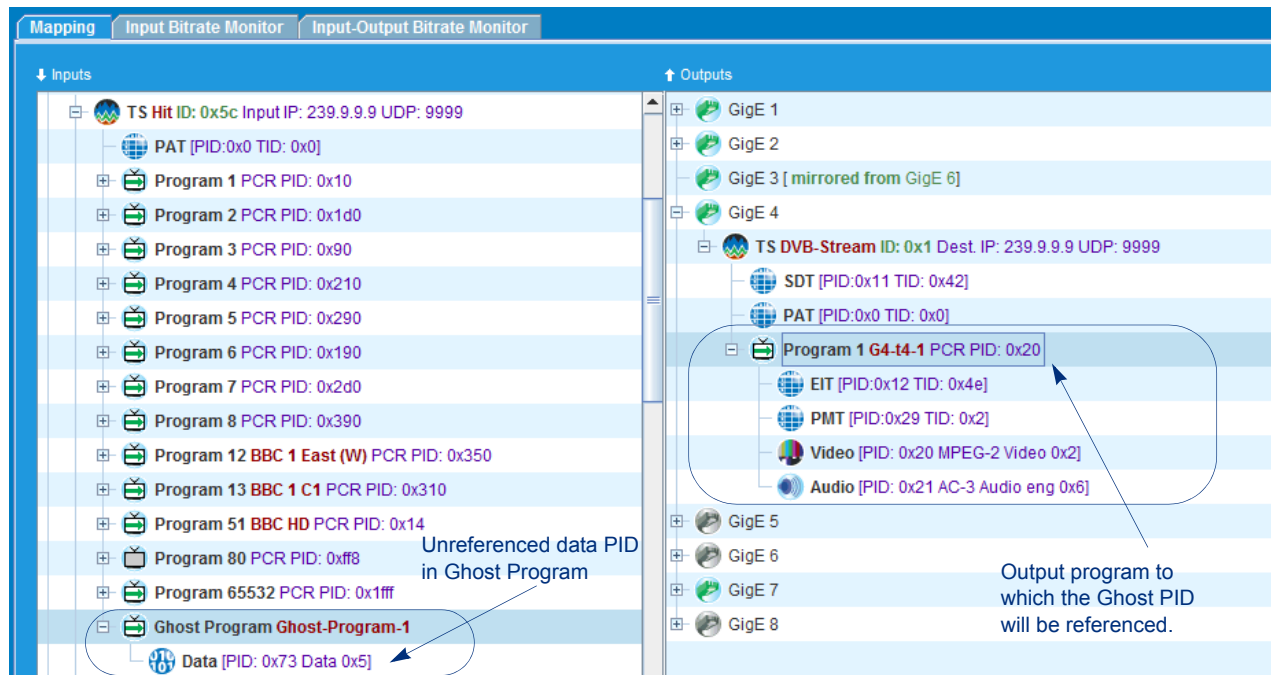

Figure 178. Starting Window for Referenced PID Mapping
Figure 178 shows the starting window with the unreferenced data PID ES created under a Ghost Program on the input.
- Highlight the output program (from Figure 178) you wish to reference the data PID to, right click and choose **Manage Elementary Streams**.